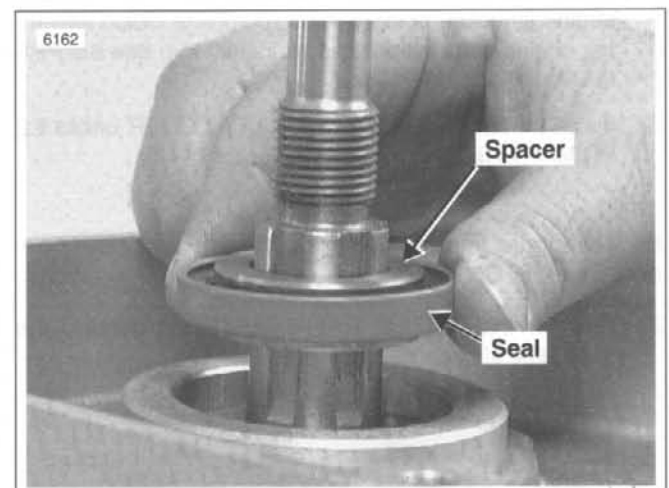

Figure 3-144. Install Spacer in Seal
- 10: See Figure 3-144. Install **new** spacer in seal ID. With the open (lipped) side facing outward, center seal/spacer assembly over bearing bore.